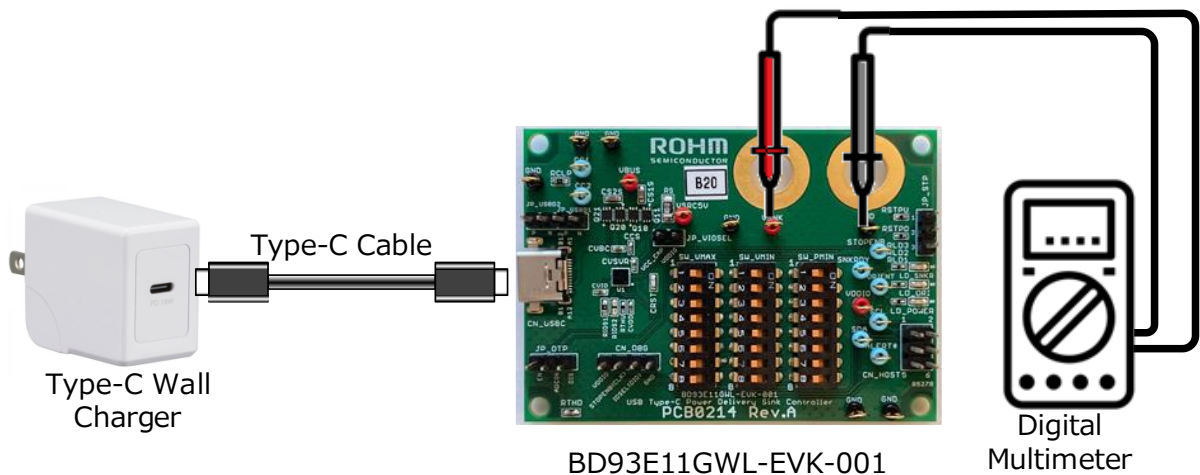

Figure 4. An evaluation for only EVK with Type-C cable
3. Confirm the contracted voltage from VSNK using a digital multimeter as shown in Figure 4.